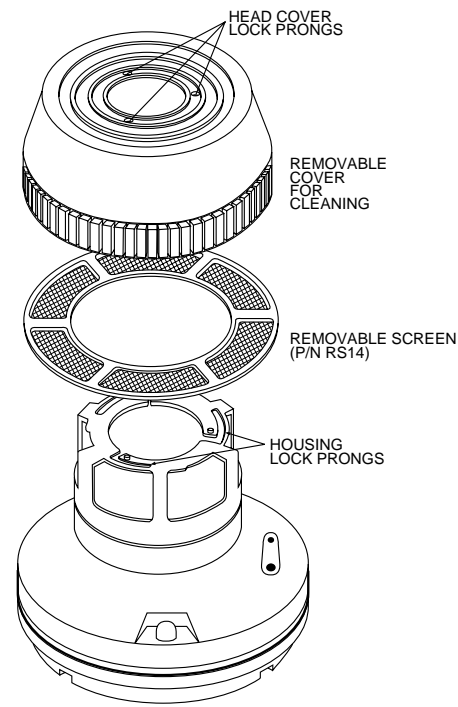

Figure 11. Ion Head Exploded View
- See Figure 11. Remove the detector cover and screen assembly by depressing the three lock prongs on the top of the cover and rotating the cover counterclockwise. The CRT400 Cover Removal Tool makes cover removal easier.